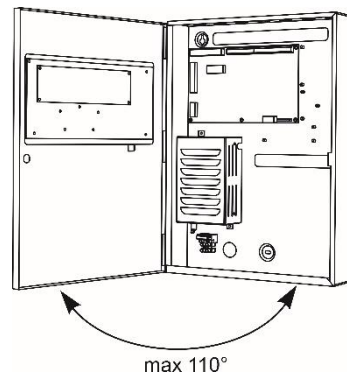

Figure 2
- Open the front cover. **Attention:** The cover is mounted to the box bottom with hinges fixed with dismantable rivets. The angle of opening of the front cover must not be greater than 110° - Figure2!